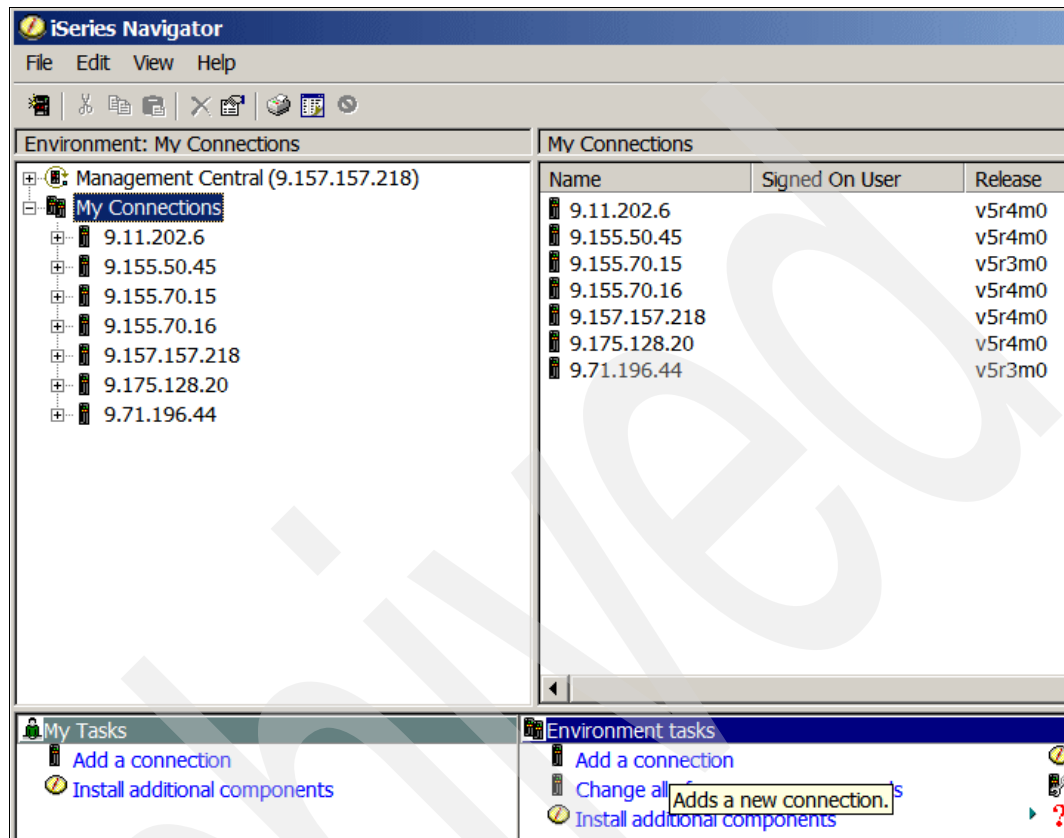

Figure 5-1 Operations Navigator
2. After iSeries Access for Windows is installed on your PC, click the iSeries Navigator icon. You are presented the Operations navigator window; part of it is shown in Figure 5-1. Go to Environment tasks and click **Add Connection**.